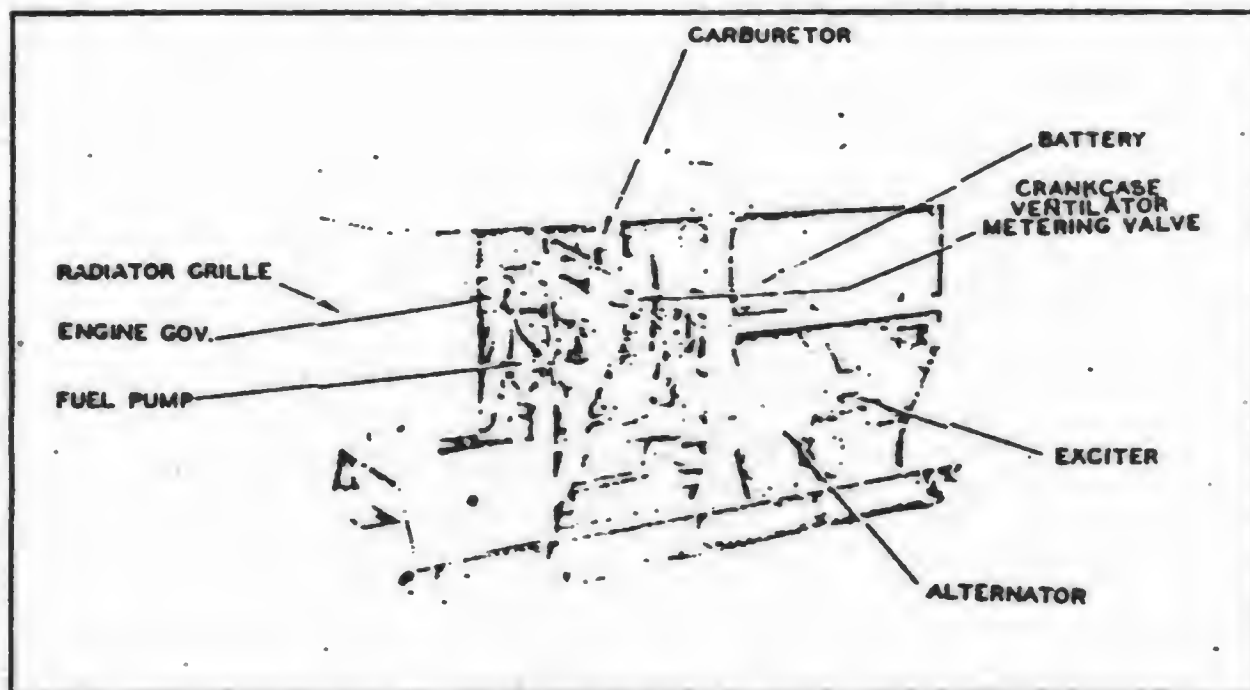

FIG. 1 POWER UNIT JWC4-10S-3 (RIGHT SIDE)
*a. Description.*—Power Unit JWC4-10S-3, Figs. 1 and 2, is a complete electric generating plant. It consists of an engine and a generator with the necessary accessories and controls, all mounted in a metal housing with a skid base.